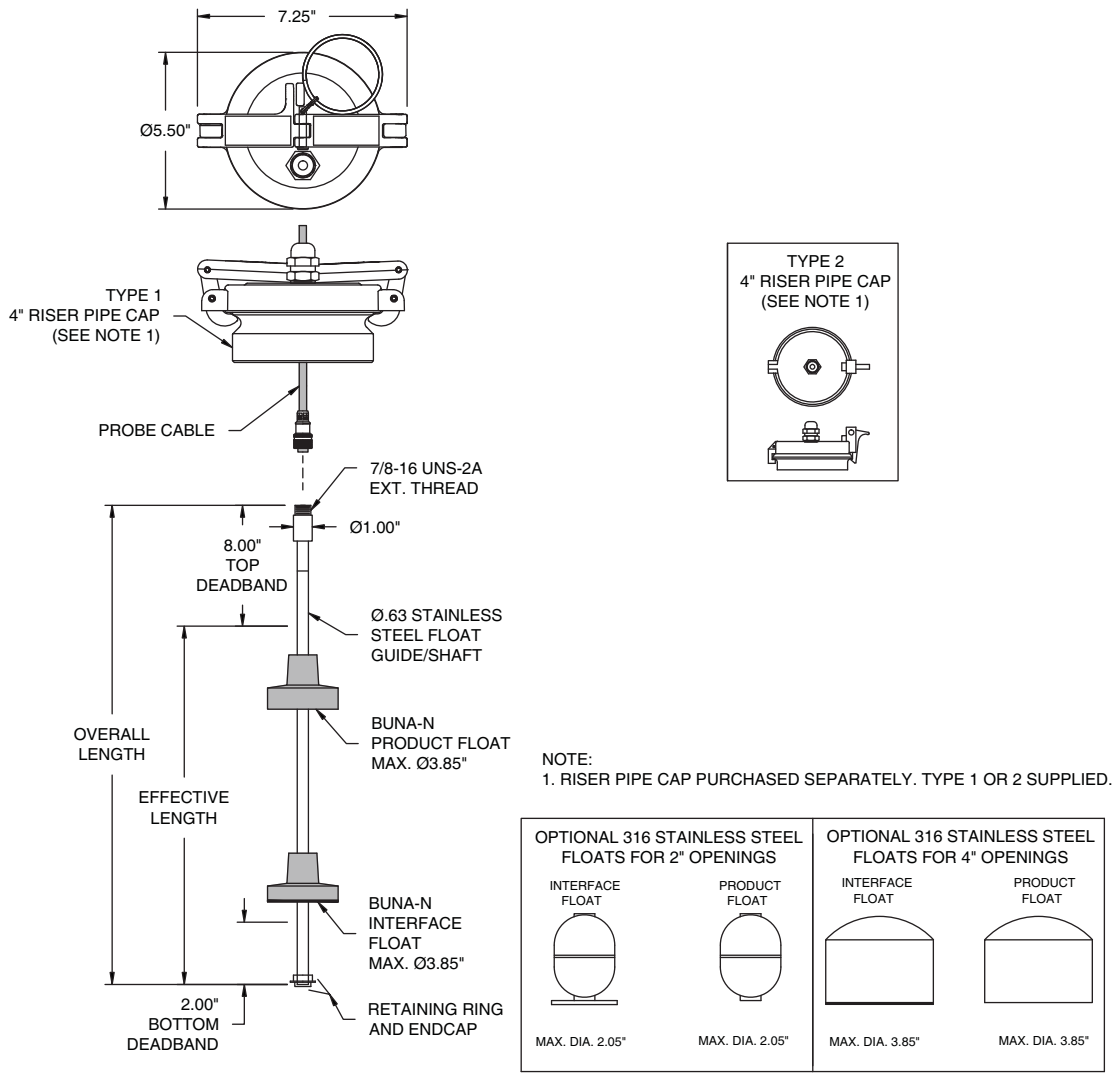

Figure 1-4 - Liquid Level Probe Outline
Figure 1-4 shows the standard MP450S probe with dimensions and specifications. Note the standard probe requires a 4-inch female NPT tank fitting, and is supplied with a 6-foot cable; it does not include the RISER CAP, which must be ordered separately. Before installing, verify the model number matches the tank size intended, and that any accessories are available on site.
1. Select the correct probes for the tank. Match the model number with tank internal dimensions per Figure 1-4.
Rigid Level Probes models MP450S, MP451S, & MP452S require tank headroom clearance at least equal to overall probe length for insertion and removal. See Figure 1-4 for probe dimensions.
1. Select the correct probe for the tank. Match the model number with tank internal dimensions per Figure 1-4.
1. Select the correct probe for the tank. Match the model number with the tank internal dimensions per Figure 1-4.